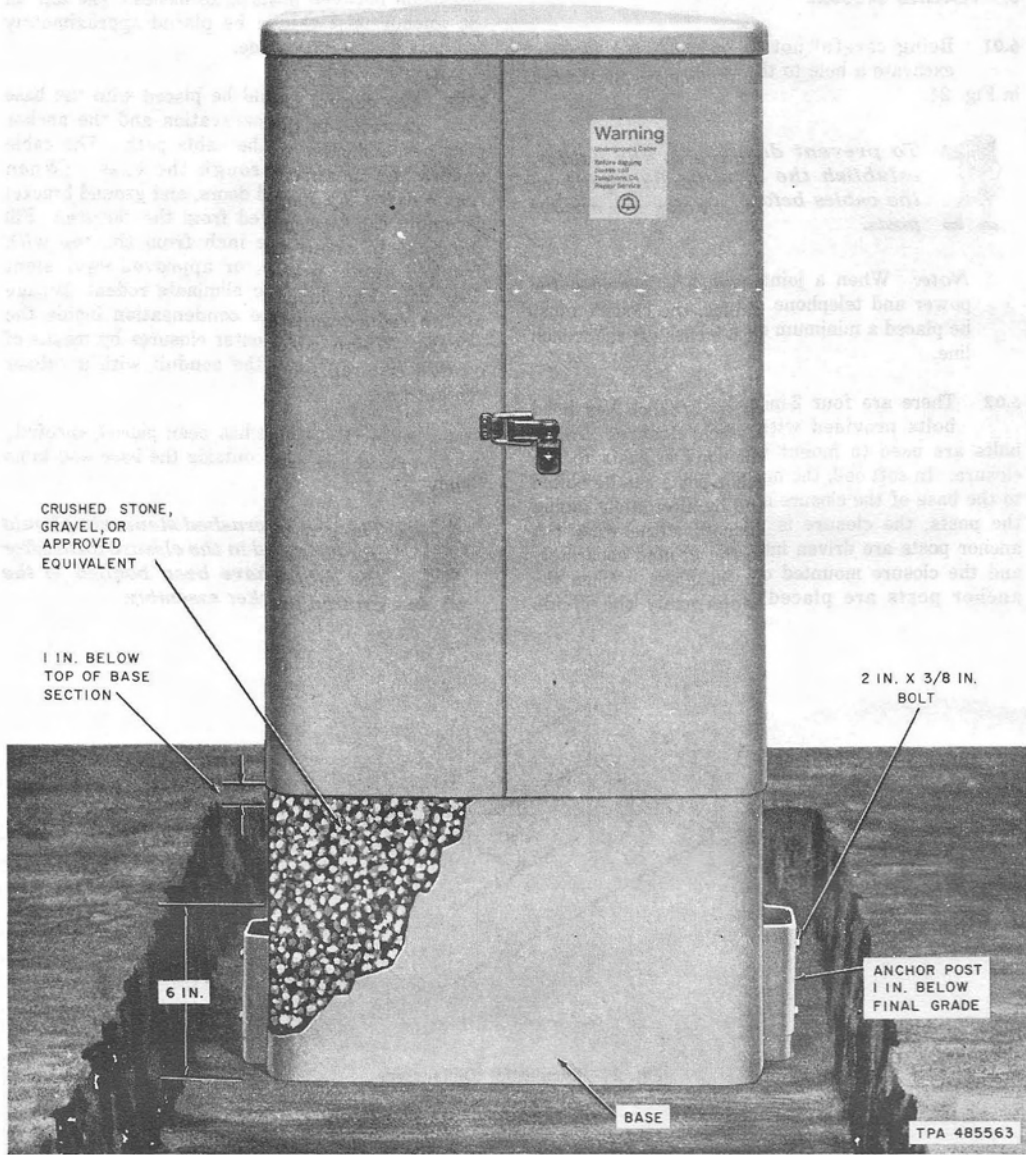

Fig. 25—Closure Placed
- 6.03** The closure should be placed with the base centered in the excavation and the anchor post perpendicular to the cable path. The cable enters the closure through the base. (When required, the top, hinged doors, and ground bracket assembly can be removed from the closure.) Fill the base to about one inch from the top with crushed stone, gravel, or approved equivalent (Fig. 25). This helps to eliminate rodent damage and to reduce moisture condensation inside the closure. Where cables enter closures by means of conduit (lateral), plug the conduit with a rubber conduit plug.